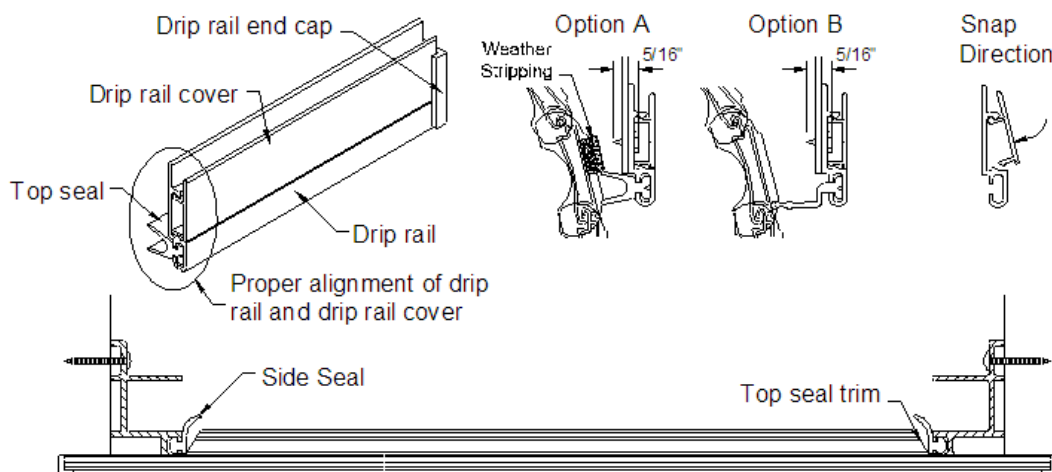

Fig. 12
- a) Center the drip rail/top seal in the compartment opening flush against the header. The ends should be even with the outer finishing flange on the track per Fig. 12.
- d) Clean the appropriate slat with a 50/50 isopropyl alcohol and water mixture. Let Dry. Attach bulb seal (weather-stripping) to door with the 'fin' of the extrusion on top so that when door is closed it will create a seal between header and slat assembly (see figure 12 option A).